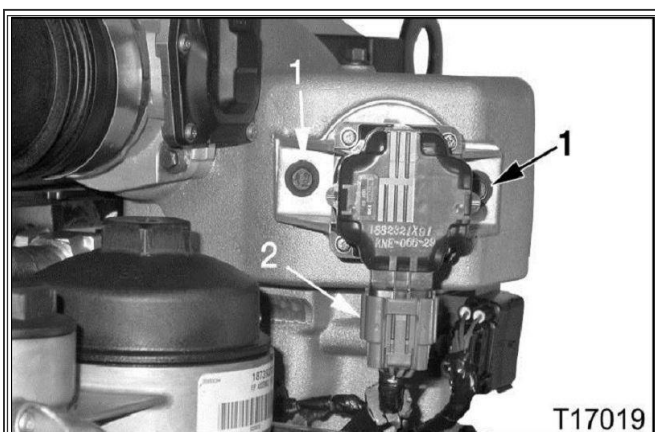

Figure 9: EGR Valve Assembly Bolts
- 1. M8 x 25.5 bolt (2)
37. Position new EGR valve assembly into air and EGR mixer duct assembly. Push and turn as necessary until valve is completely seated and mounting holes are properly aligned. Using torque wrench, install two mounting bolts (Figure 9, Item 1). Tighten bolts to 23 ft-lb (31 N·m).